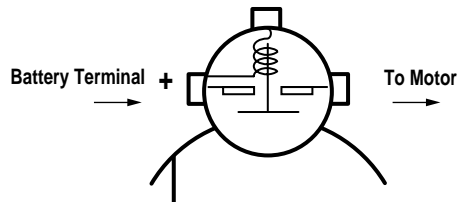

Figure 1. 3 Post Solenoid Switch
1. 3-Post solenoid switch (See Figure 1).